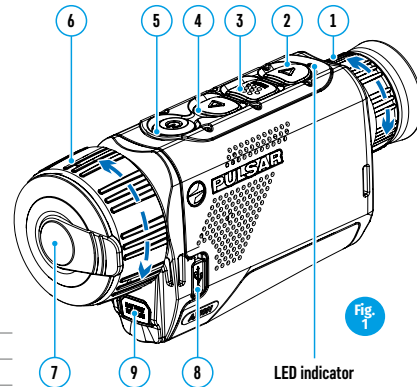

Fig. 1
- Attach the external power source to the device's USB connector (8) (Fig. 1)